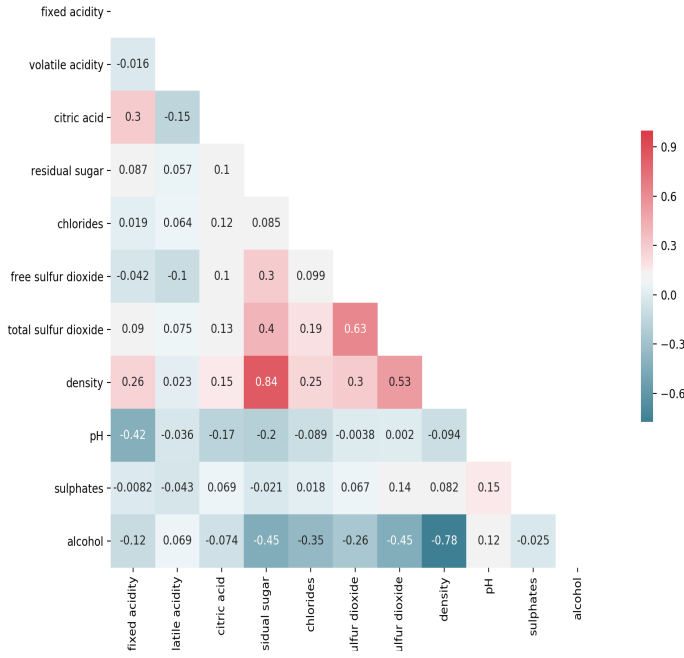
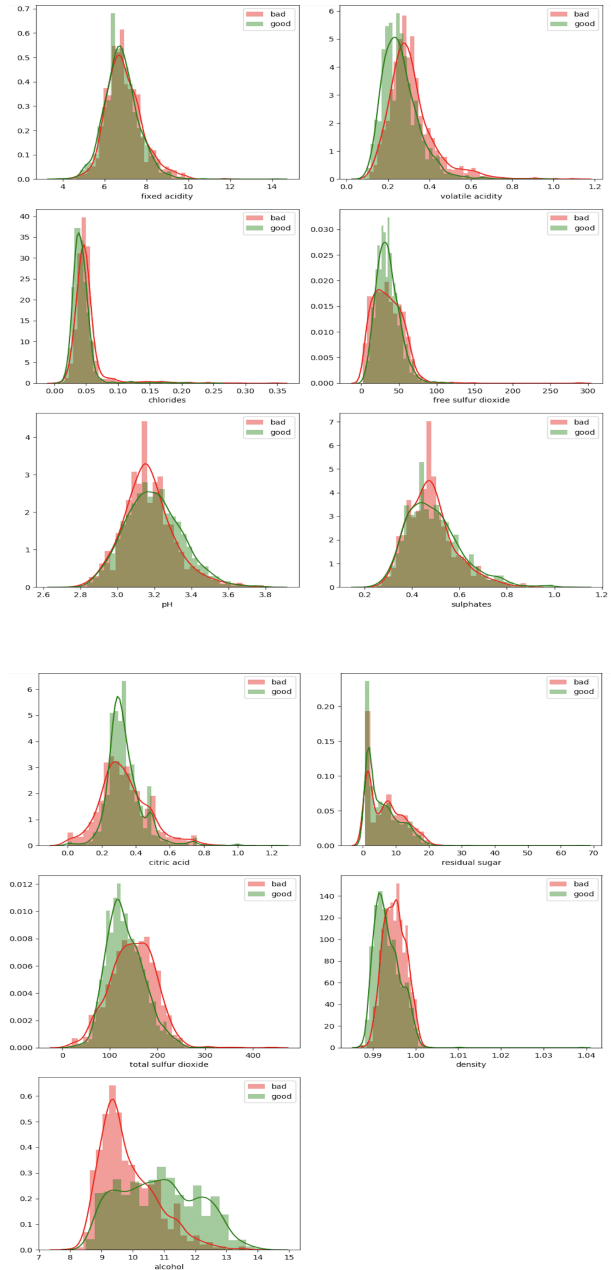

Fig. 1. Correlation matrix for white wine data set
Fig. 2. Distribution Plots
Correlation analysis is a vital tool for feature selection [3]. Features with high correlation are more linearly dependent and hence have almost the same effect on the dependent variable [4]. Based on the correlation matrix shown in Fig. 1. the variables are not highly correlated to each other. One can say that correlation between Residual Sugar and Density is high (0.84). Or Alcohol and Density (-0.78). So maybe we can drop Alcohol and Residual Sugar because these variables are already represented in Density?. The answer we give is no. Because Alcohol and Residual Sugar do not keep strong relationships with the rest of the variables.
In figure 2 we can see each variable's distribution in the data set. Here we used *distplot()* to fit a parametric distribution to the data set and visually evaluate how closely it corresponds to the observed data. Based on this distribution plots we can see that the less strongly correlated variables (See Fig 1.) correspond to the closest variables in the respective distribution plot (See Fig 2.). Take Alcohol as an example, its correlation indexes are almost strong and its distribution is more disperse. This can be seen in a two dimensional graph between those variables.
maybe they both can. And that's the case of *fixed acidity*, where its distribution in Fig 2 is very close but we will see below that it is one of the most important variables appearing in almost every top 5 models.
- The results above show that the lower the correlation grade amount one variable (See Fig 1), the accuracy returned by the model is higher, that means that the variable is more significant to the model. For example
all the correlations in Fig 1. for *volatile acidity* are low, and this variable appears in all top 5 models. The same happens with *alcohol*.
Comparing both tables (Table I and Table II), using the information given about the correlation matrix (Fig. 1) and the Distribution of the variables (Fig. 2) We agree that the best parameters combinations for the model are: